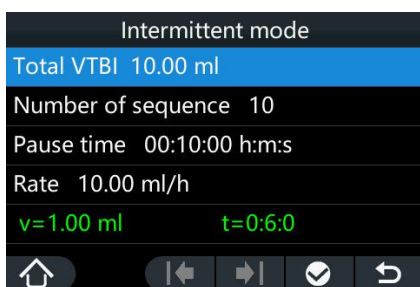

Figure 5-6
1. Select menu “” option → “Mode” → “” → “Intermittent mode” to enter the interface as shown in Figure 5-6.